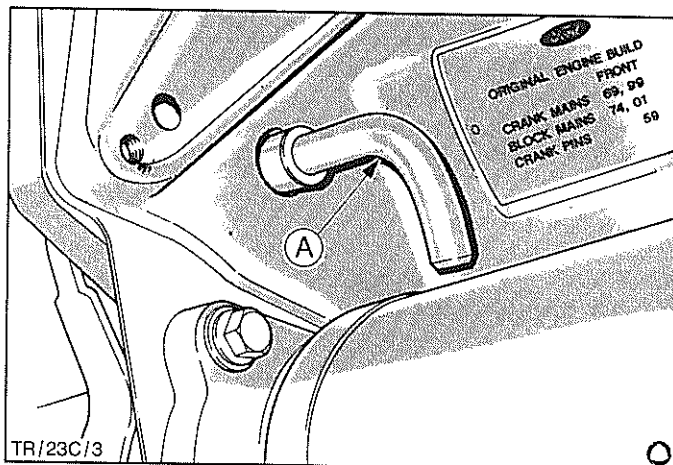

Fig.31. Crankshaft timing peg location.
**NOTE:** To rotate the injection pump drive shaft carefully tap the side of the pulley bolts clockwise or anti-clockwise as required until timing peg can be fitted, see Fig.31.